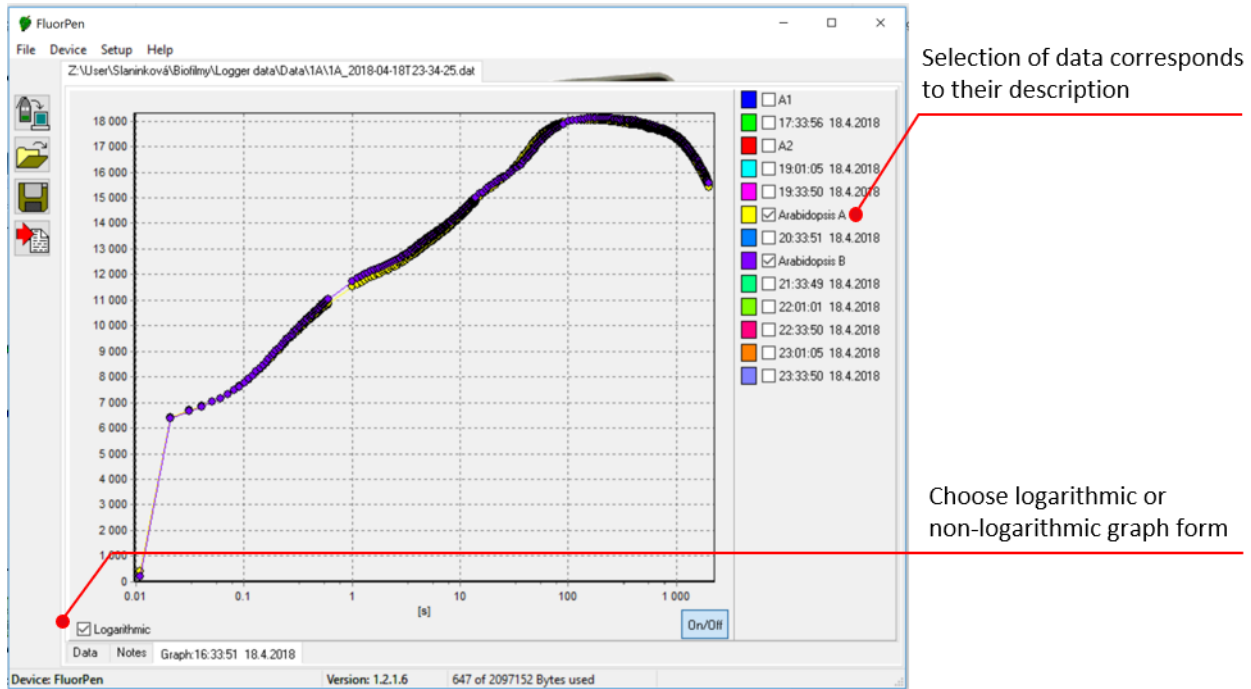

Fig. 31 Graphic visualization of experiment.
4. To **visualize** the data in the graph mode, click the **Graph** field in the bottom bar. The selected set of data will be shown on the Graph (Fig. 31).